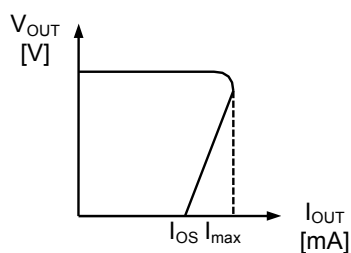

Figure 19
The S-87x Series has a built-in short-circuit protection circuit to protect the element from break caused by a large current in case of a short circuit. The output short current is internally limited to approx. 70 mA. Short-circuit protection circuit has three kinds characteristics according to input voltage (V_{IN}) as shown in **Figure 19 to 21**.
- (1) At the time of voltage detection, the voltage regulator is shutdown and load current is cut. Therefore, VIN pin voltage increases by $\Delta V_{IN} = I_{IN} \times R_{IN}$, where the current flowing into R_{IN} is set to I_{IN} . Hence, if ΔV_{IN} exceeds hysteresis width (V_{HYS}), oscillation starts immediately after detection and continues. It is necessary to set ΔV_{IN} less than V_{HYS} .
- (2) At the time of voltage release, the voltage regulator is powered on and load current flows. Therefore, if ΔV_{IN} exceeds hysteresis width (V_{HYS}), oscillation starts immediately after release and continues. It is necessary to set ΔV_{IN} less than V_{HYS} . Also at the time of voltage release, the rush current to charge output capacitor (C_{OUT}) flows. Hence, oscillation momentarily starts until the output of regulator (V_{OUT}) rises high enough even though ΔV_{IN} is set less than V_{HYS} . But Short-circuit protection circuit controls the rush current less than I_{MAX} on Figure 19 to 21. If this momentary oscillation is a problem in your application, setting R_{IN} less than V_{HYS}/I_{MAX} prevents oscillation.